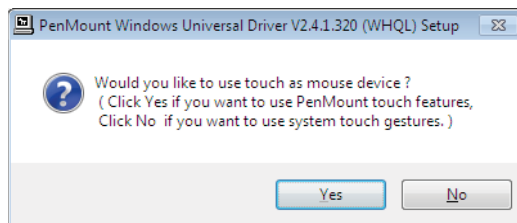

Fig.5
Step 5: The dialog window “Would you like to use touch as mouse device?” will appear. If you would like to use PenMount touch functionality, click “Yes”; if you would like to use system touch gestures, click “No” (Fig.5).